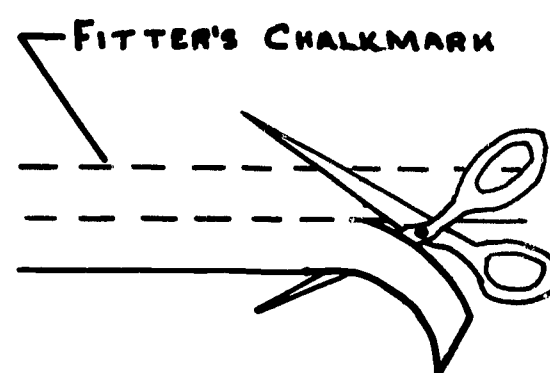

Figure 29.
8. Trim away the fabric below the chalk line to prevent bulkiness at the waistline (see Figure 29).